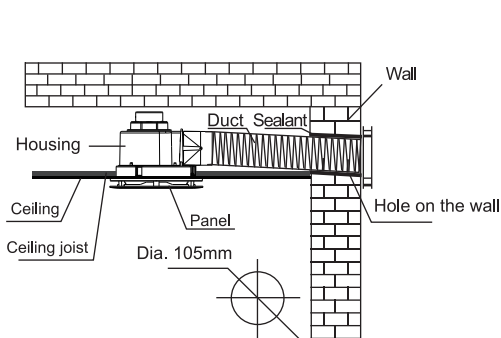

Figure 1: Installing ducting (sold separately)
Step 4. If ducting is required for ventilation, install a 100mm duct pipe to the exhaust fan and lay the ducting across the ceiling and onto a suitable 100mm exhaust vent (see figure 1)